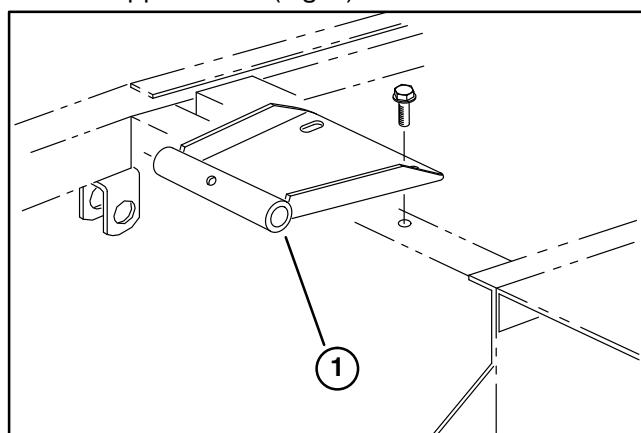

Figure 5
12. Mount seat pivot bracket to frame with (2) flange screws supplied in kit (Fig. 5).
14. Mount seat pivot bracket to frame with (2) flange screws supplied in kit (Fig. 5).